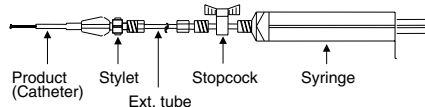

Fig.1:
- Insert 10ml of heparinized saline into the syringe and remove the air contained within the syringe. As per Fig.1,